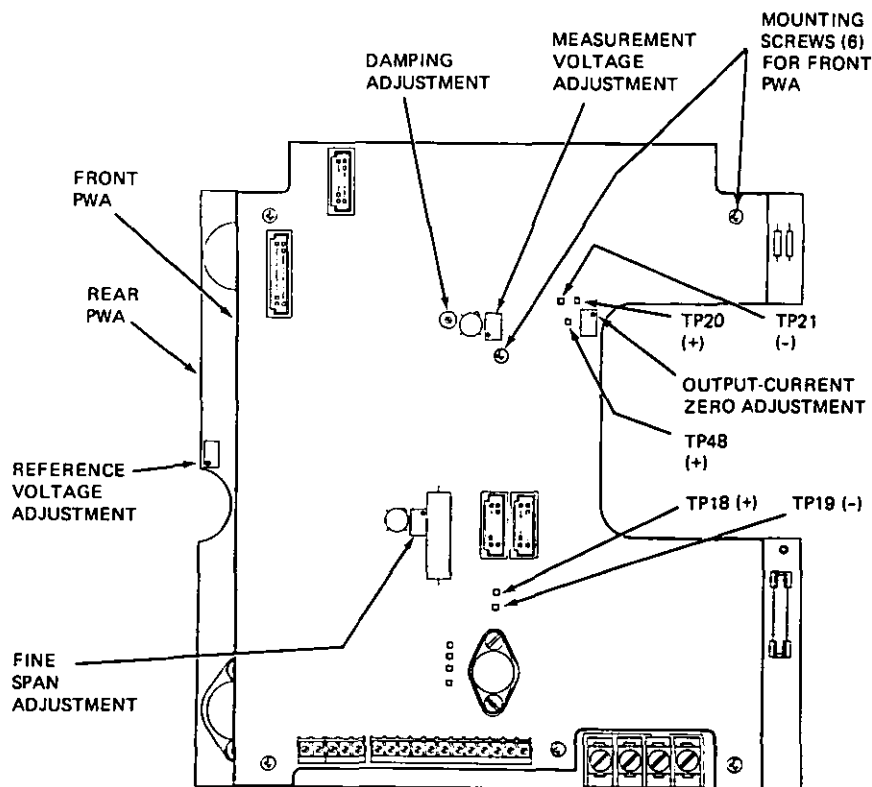

Figure 10.
4. Refer to Figure 10. Connect a 0 to 1 V dc voltmeter between test points TP18 (+) and TP19 (-).
The damping adjustment is shown in Figure 10. To decrease damping, turn adjustment counterclockwise.
9. Adjust voltmeter to 10 V range and connect it between test terminals TP20 (+) and TP21 (-). Terminals are shown in Figure 10.
13. On transmitter, turn reference voltage adjustment (shown in Figure 10) until voltmeter reads 10.000 V, ± 5 mV.
15. Turn measurement-voltage zero adjustment (shown in Figure 10) until voltmeter reads 0.000 V, ± 1 mV.
17. Turn output-current zero adjustment (shown in Figure 10) until voltmeter reads 0.1000 V, ± 0.1 mV.
20. Turn fine span adjustment (shown in Figure 10) until voltmeter reading is 0.5000 V, ± 0.5 mV.
With span less than 1 mV and minimum damping, voltmeter reading may be unstable. To stabilize reading, turn damping adjustment (shown in Figure 10) 1/4 turn clockwise (increased damping). Allow about 15 seconds for reading to stabilize.
To change supply voltage link positions, front printed wiring assembly (PWA) must be removed from transmitter. To remove PWA, remove the six mounting screws shown in Figure 10. If transmitter has a door (supplied with some options; shown in Figure 2), door frame will also be dismantled when four mounting screws at corners of PWA are removed. Unplug cables from PWA as required when removing assemblies. Reinstall cables after reassembling transmitter.